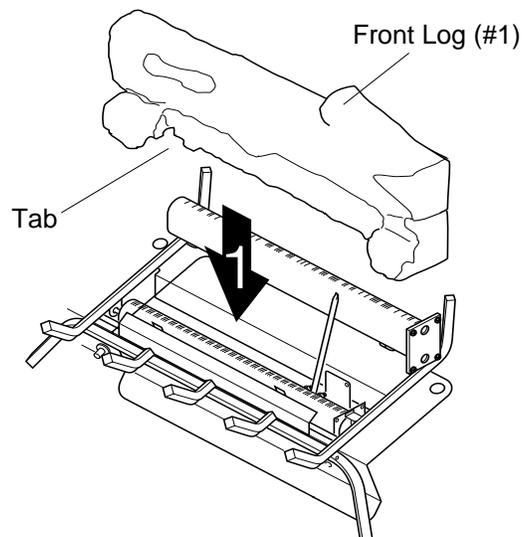

Figure 22 - Installing Front Log
1. Slide front log (#1) into place behind front burner. Make sure tabs at bottom of log are behind front burner (see Figure 22).